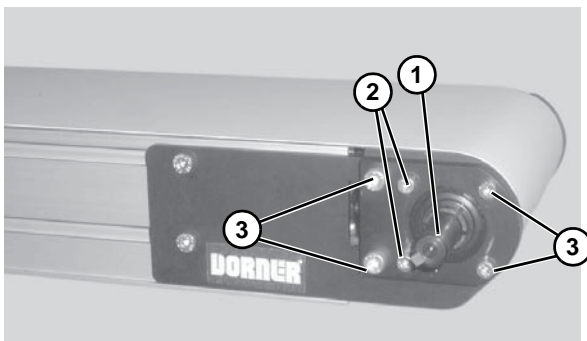

Figure 8
- Locate drive output shaft (**Figure 8, item 1**). Remove two (2) M8 screws (**Figure 8, item 2**) and four (4) M6 screws (**Figure 8, item 3**) and discard.